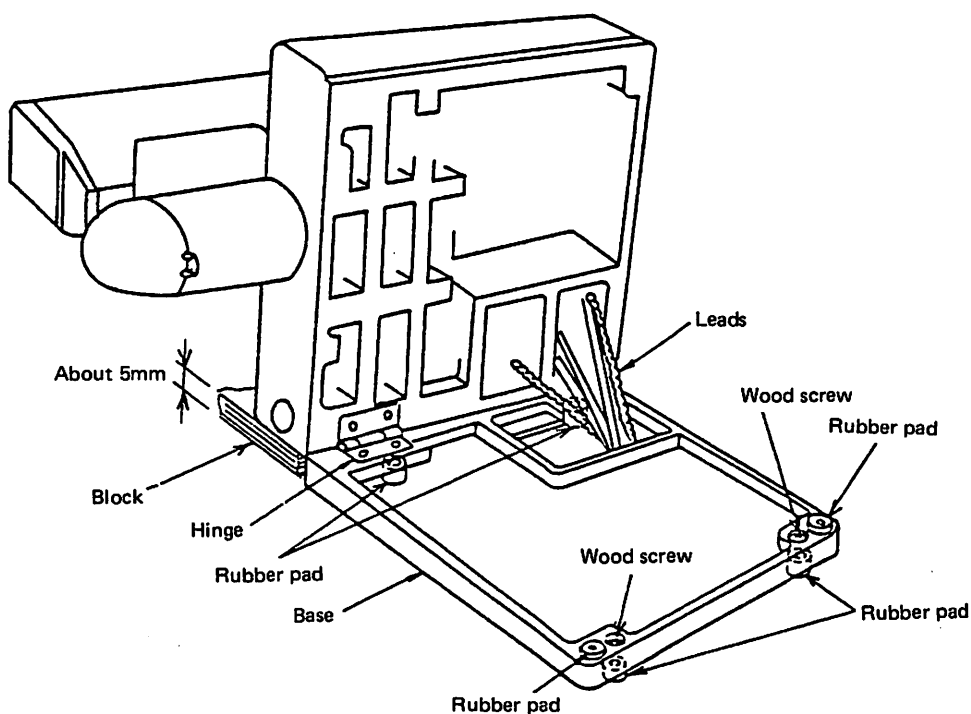

Fig. 2
- 3.1.3 Take out the machine head from the shipping case and place it on the table, as shown in Fig. 2.
- Notes:** (1) If the table is not secured to the table with wood screws, it may spring up, due to gravity of the head, when the head is leaned.
- (2) For prevention of spring up of the base, it is recommended to install a block of about 5 mm thick below the head, as shown in Fig. 2.